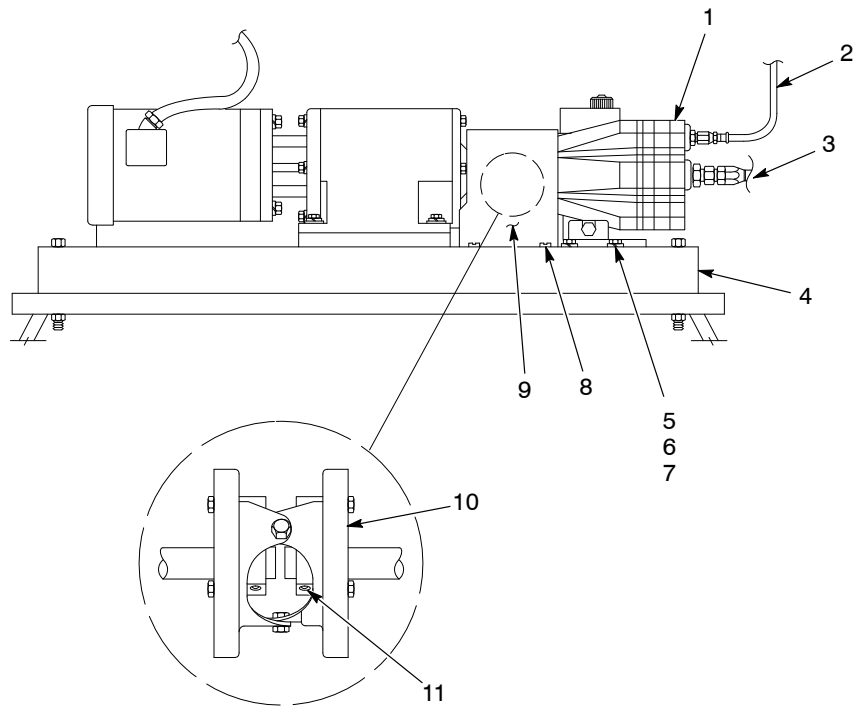

Figure 13 Pump Installation
1. See Figure 13. Use screws (5), lock washers (6), and flat washers (7) to install the pump (1) on the frame (4). Tighten the screws securely.
2. Tighten the set screws (11) on the coupling (10).
3. Use the screws (8) to install the shroud (9). Tighten the screws securely.